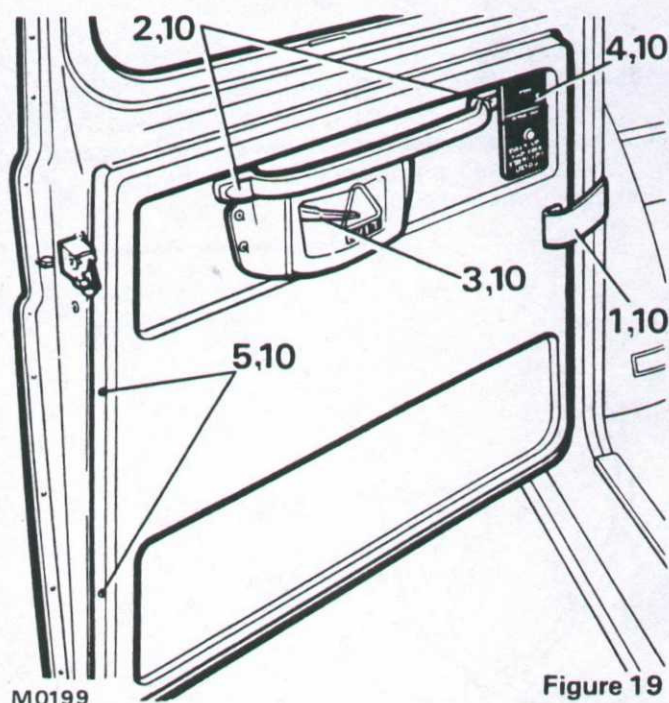

Figure 19
- 2 Carefully prise out end cappings, remove retaining screws and detach grab handle, see figure 19.